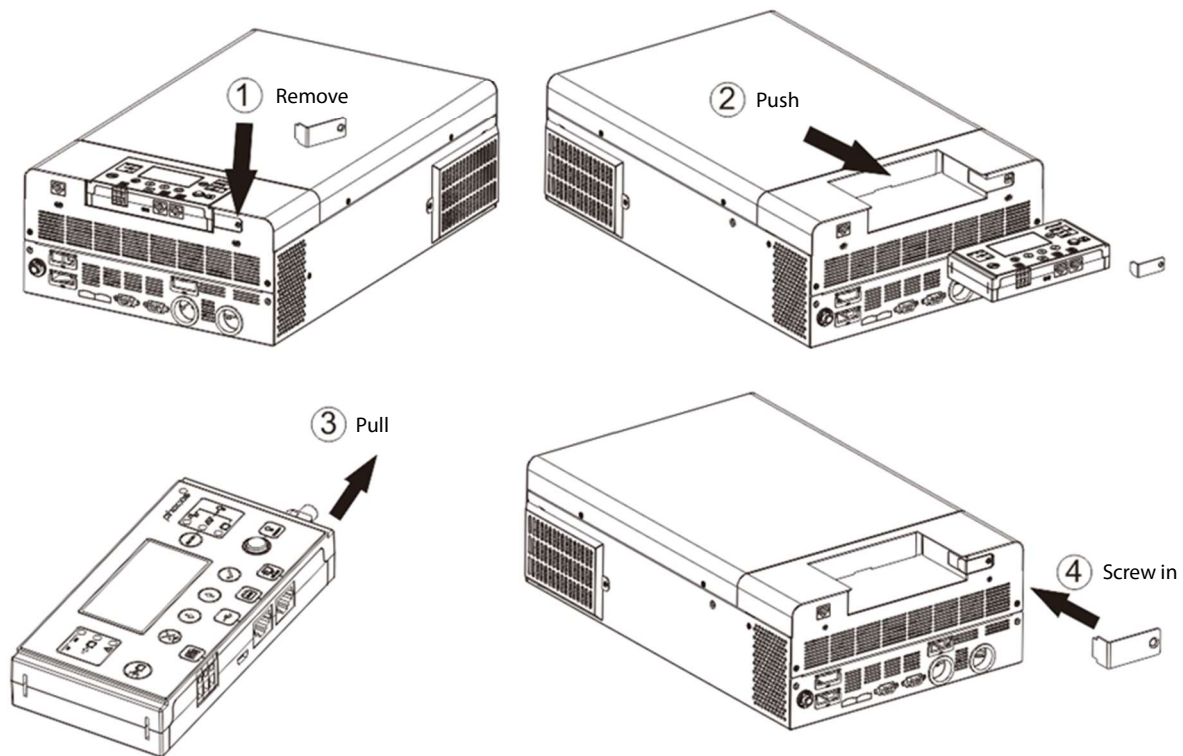

Fig. 11: Remote display removal
1. Remove the screw holding the bracket on the bottom of the display module (**Fig. 11** → ①) and push down the display unit from the case slightly while removing the metal bracket.
2. Keep pushing the display module down, taking care not to damage the connected cable (**Fig. 11** → ②).
3. Remove the cable connected to the display module (Fig. 11 → ③).
4. Screw the bracket removed in Fig. 11 → ① back in place (Fig. 11 → ④).